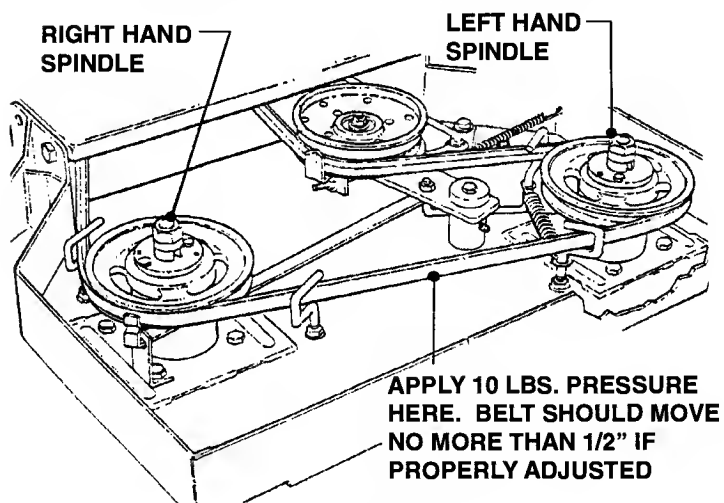

FIGURE 5.26
3. Apply 10 pounds of pressure between the right and left Spindle Pulleys as shown in Figure 5.26. The Belt should move no more than 1/2".